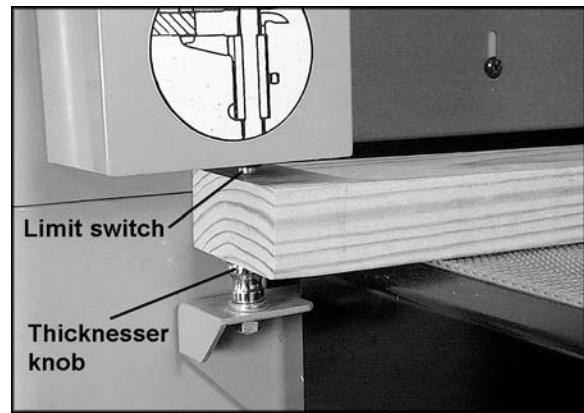

Figure 21
2. Press and hold the UP ▲ button on the keypad to raise the conveyor table until the thicknesser knob (Figure 21) contacts the limit switch. The table will automatically stop while making slight contact with the sanding belt.
1. Place your workpiece upon the conveyor table and move it below the thicknesser, as shown in Figure 21. Keep the workpiece flat upon the table. Press and hold the UP ▲ button on the keypad to raise the conveyor table. When the workpiece contacts the limit switch the conveyor table will stop. The table is now positioned at the thickness of your workpiece.